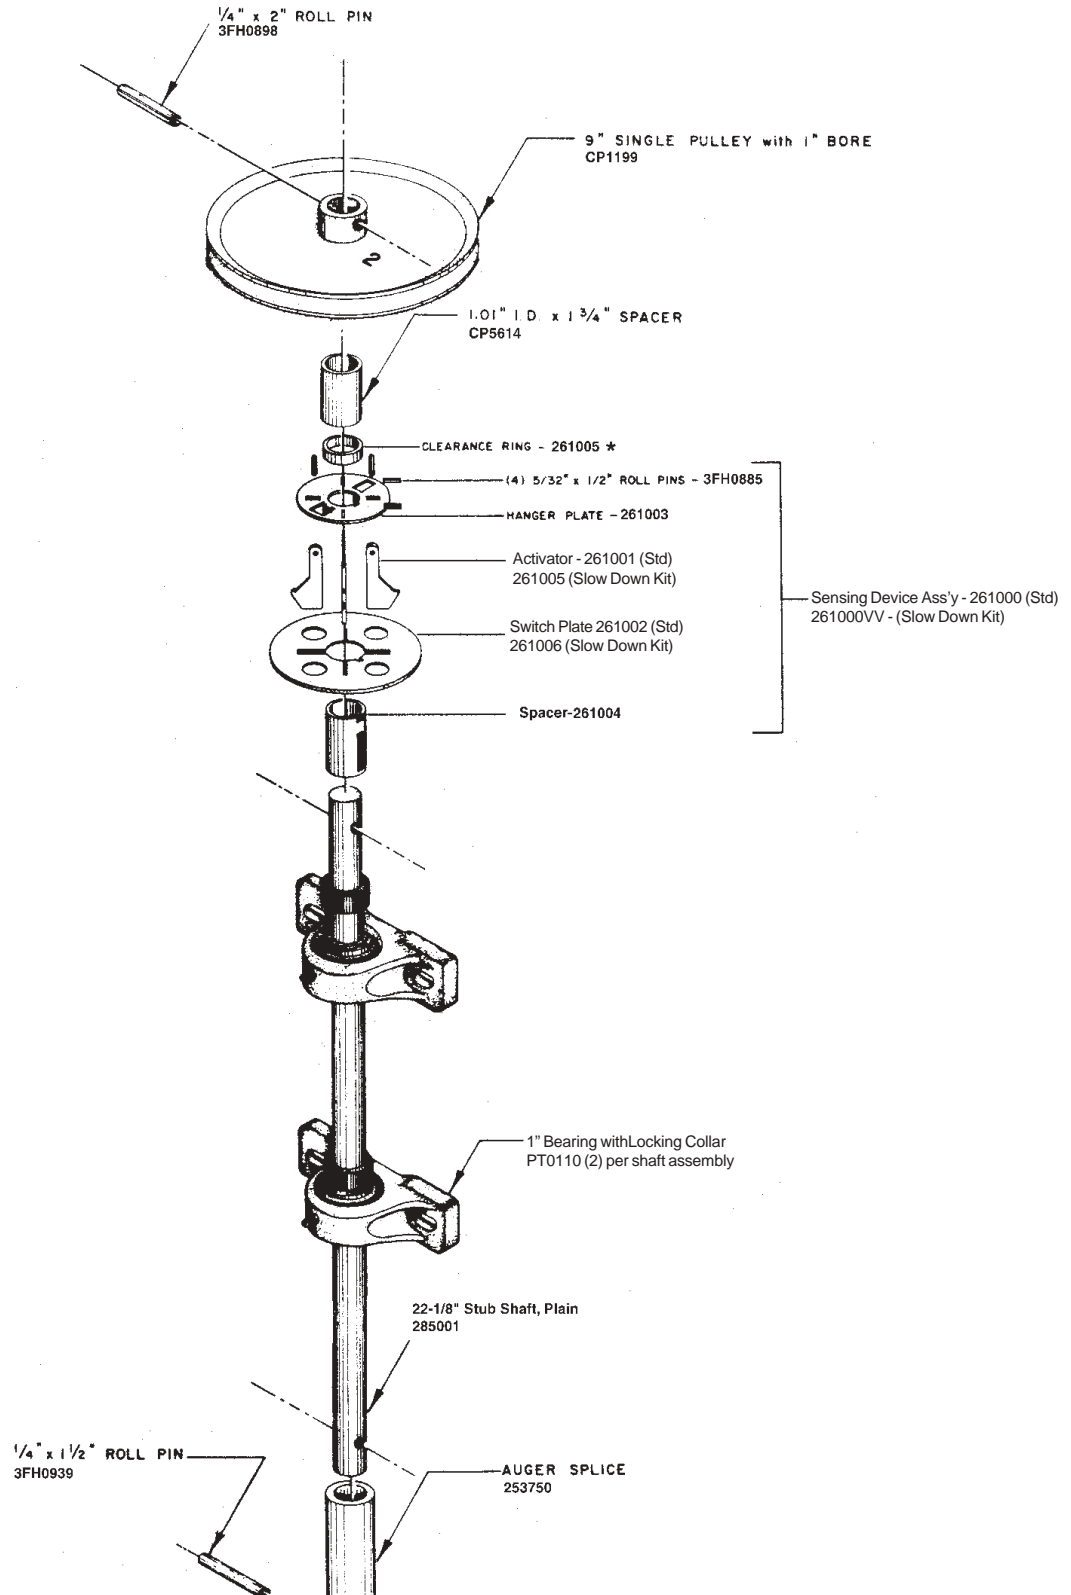
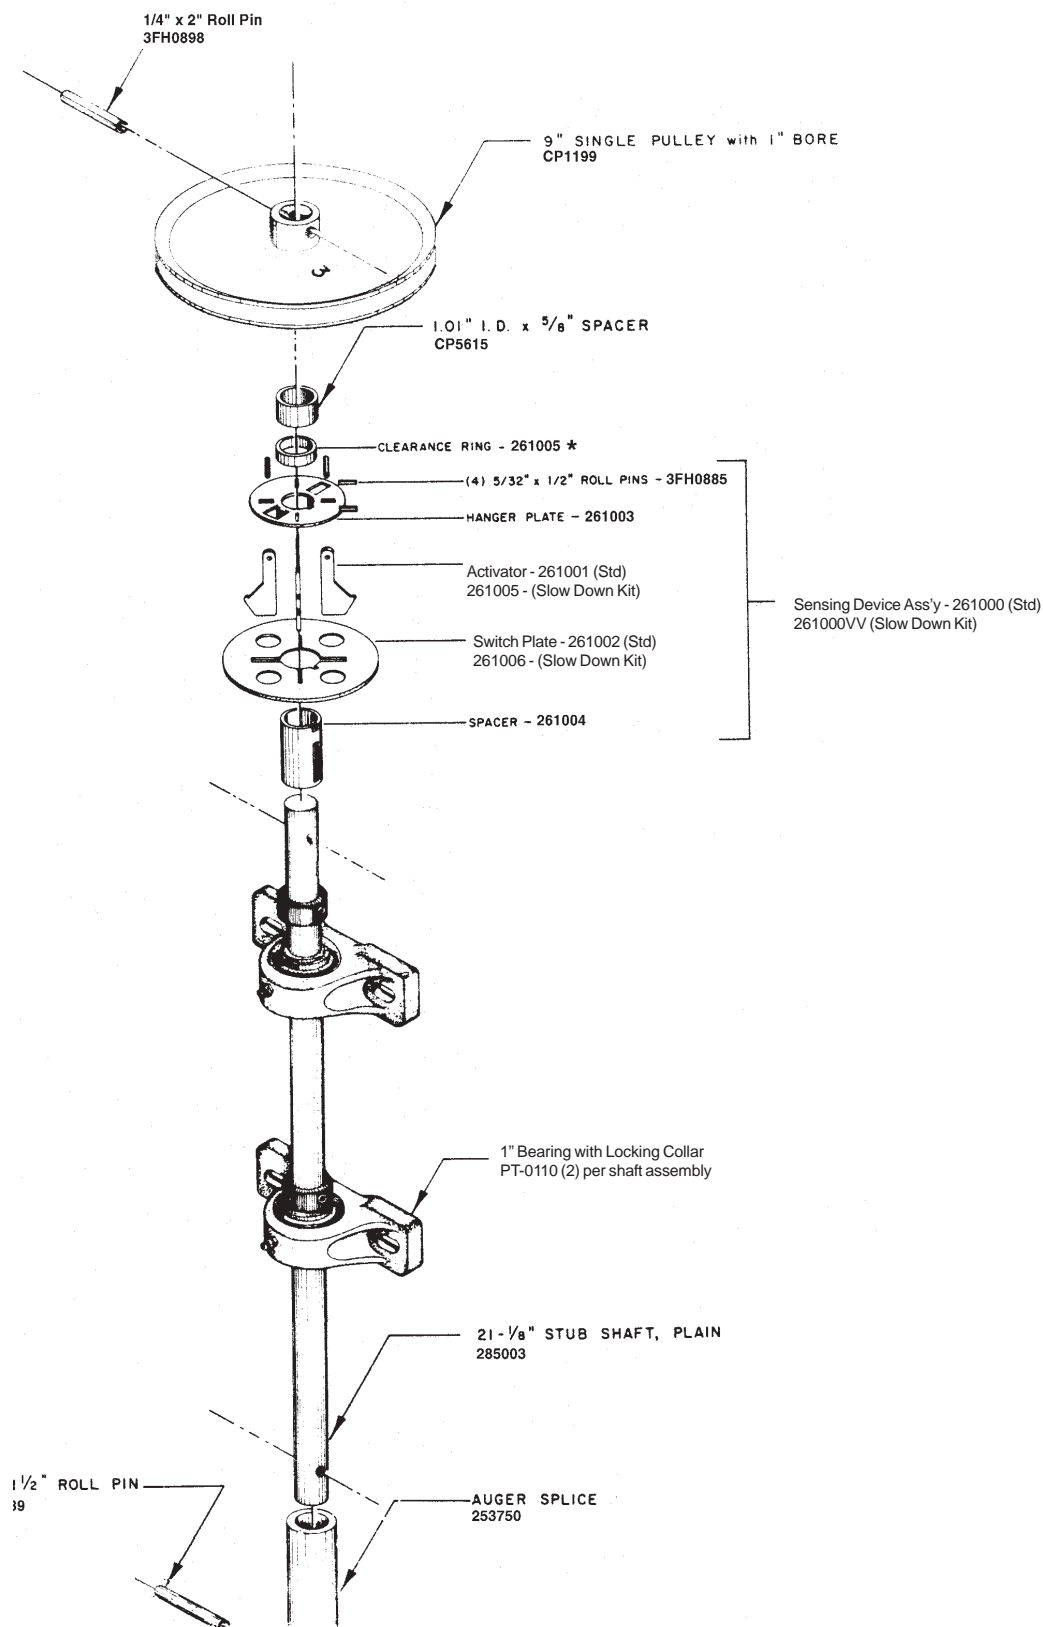

Figure 4-2 Stub Auger Assembly No. 2 (280002)
Figure 4-3 Stub Auger Assembly No. 3 (2800031)
4. The No. 2 (see Figure 4-2) and No. 3 Auger Assemblies (see Figure 4-3) contain the Sensing Devices and are placed at either end of the beam. No. 2 Stub Auger Assembly is used in the high belt position and the No.3 Stub Auger Assembly in used in the low position. Check overall beam drawing for your particular unit length for correct positioning.